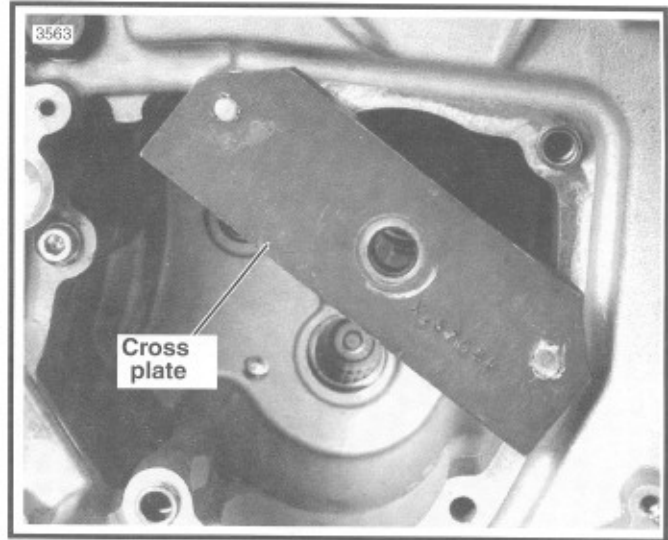

Figure 6-44. Support Bracket Mounting
3. See Figure 6-44. Use MAIN DRIVE GEAR REMOVER AND INSTALLER (Part No. HD-35316A) with CROSS PLATE (Part No. HD-35316-91). Take support bracket (1) and insert pins, at one side, into holes which are now exposed under access cover.